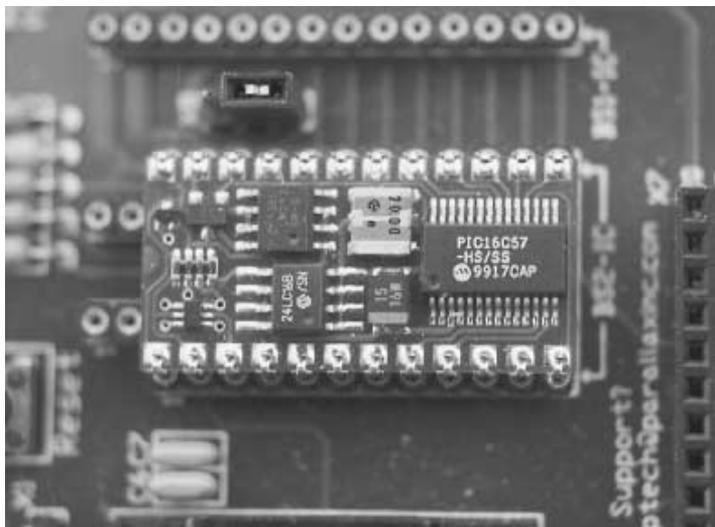

FIGURE 31.2 The Basic Stamp II module, containing microcontroller, voltage regulator, resonator, and EEPROM.
- *BSII Module.* The Basic Stamp module (see Fig. 31.2) contains the actual microcontroller chip as well as other support circuitry. All are mounted on a small printed circuit board that is the same general shape as a 24-pin IC. In fact, the BSII is designed to plug into a 24-pin IC socket. The BSII module contains the microcontroller that holds the PBasic interpreter, a 5-volt regulator, a resonator (required for the microcontroller), and a serial EEPROM chip.